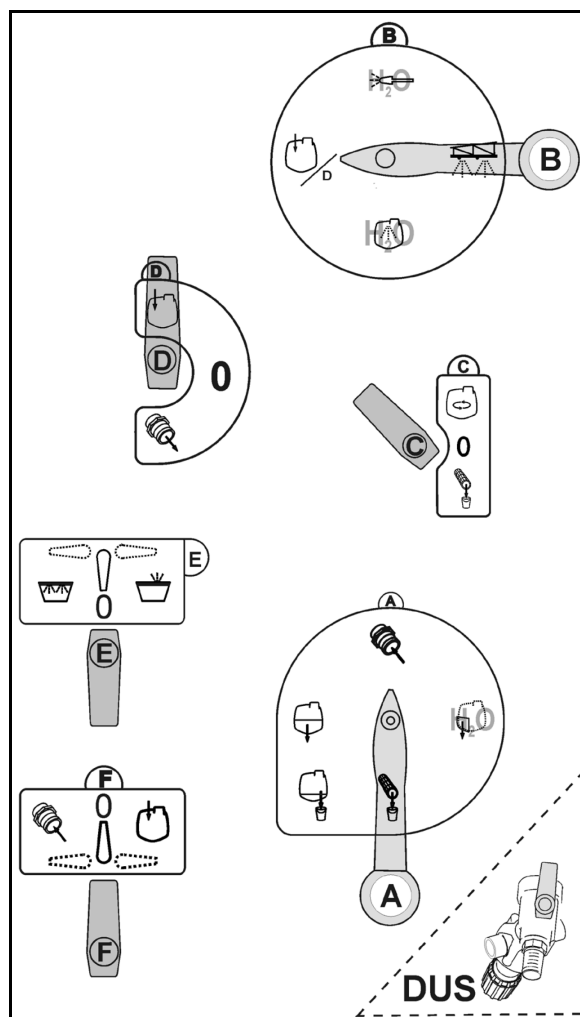

Fig. 15
5. On the control terminal, move the switch taps to the specified position (Fig. 15):